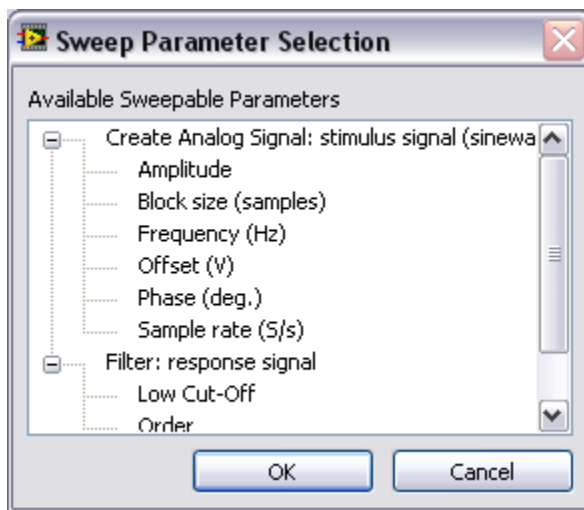

Figure 7-1. Sweep Parameter Selection Dialog Box
5. On the **Step Setup** tab, click the **Add** button to display the list of sweep parameters from each step in the project, as shown in Figure 7-1.